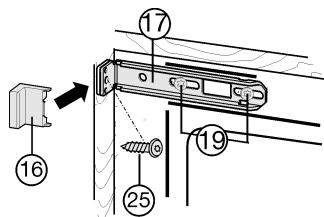

Fig. 17
- ▶ Loosen the screws *Fig. 17 (19)* a little.
- ▶ Tightly screw the top mounting bracket *Fig. 17 (17)* to the unit wall using Spax screw *Fig. 17 (25)* $\varnothing 4 \times 19$.
- ▶ Break off the projecting end of the cover *Fig. 17 (16)*.
- ▶ Tighten the screws *Fig. 17 (19)*.
- ▶ Put on the cover *Fig. 17 (16)*.